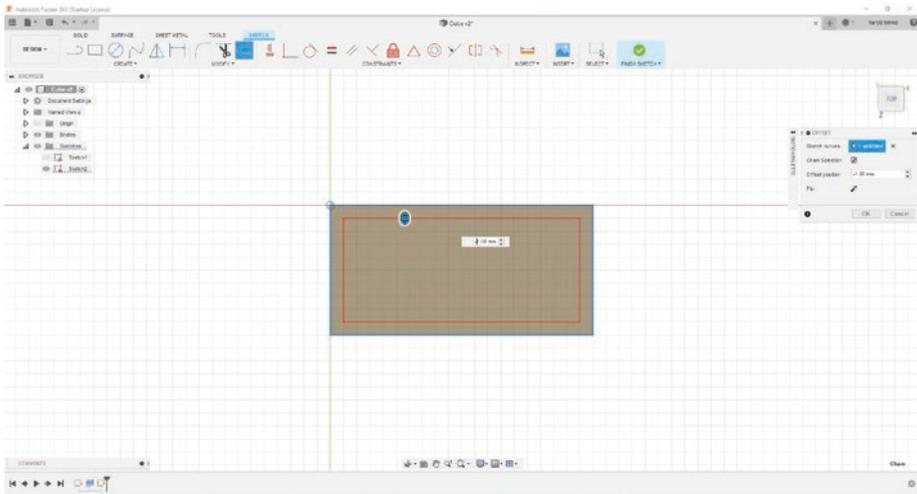

Figure 3-61. Edit the dimension to -1mm
12. Notice that there is now a box around your 3D object. To change this, put -1.00mm into the Offset position text box, or just click the “Flip image.” Press “Enter” when you are finished. See Figure 3-61.